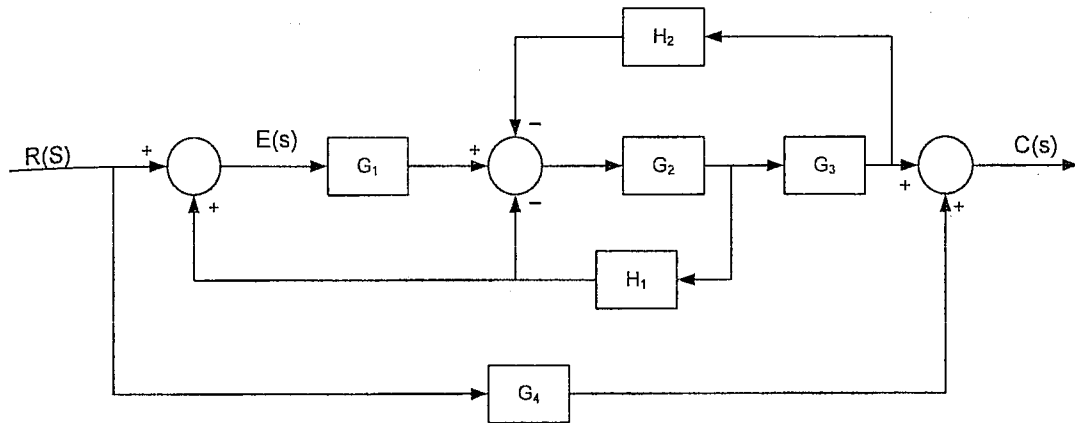

Figure Q3
- Draw the signal flow graph for the block diagram given in figure Q3.